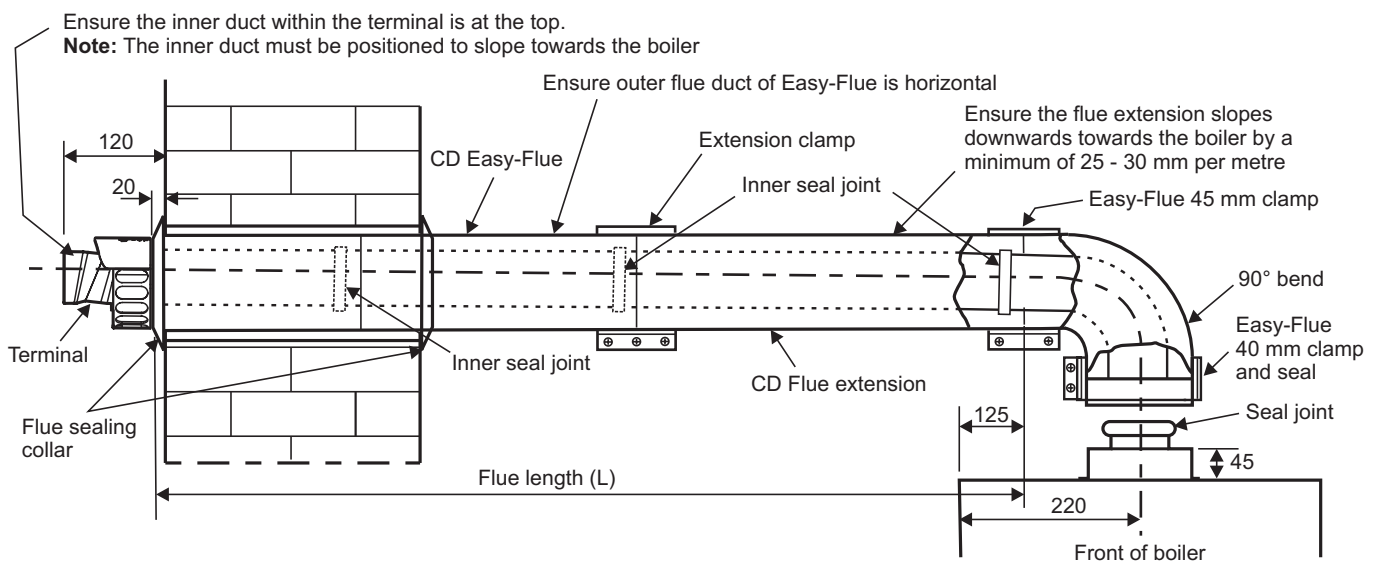

Fig. 4.11 - Side flue
#### 4.8 EXTENDING THE FLUE - Fig. 4.11
**Note:** Check the flue terminal protrudes 120 mm out of the wall and that the inner duct of the terminal is positioned correctly, i.e. the inner duct within the terminal is at the top. See Fig. 4.11.